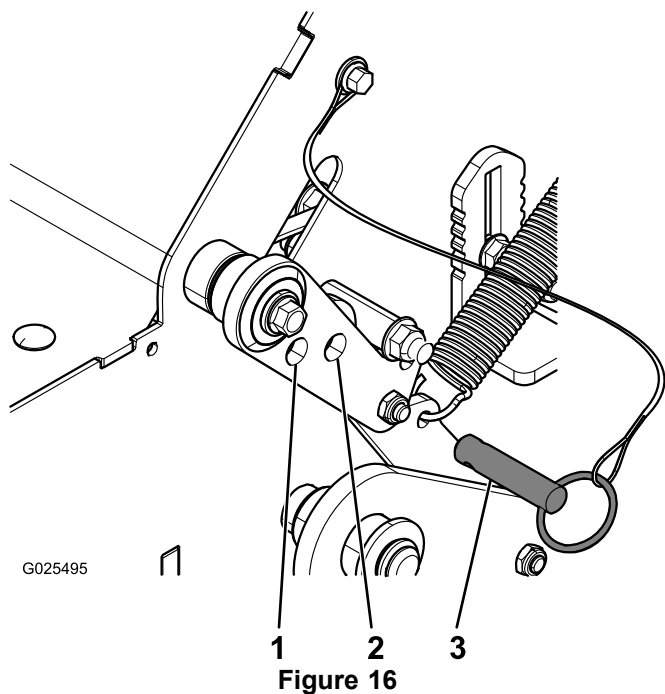

Figure 16
2. Remove the transport locking pin from the spring bracket and store it in the hole above while aerating (Figure 16).